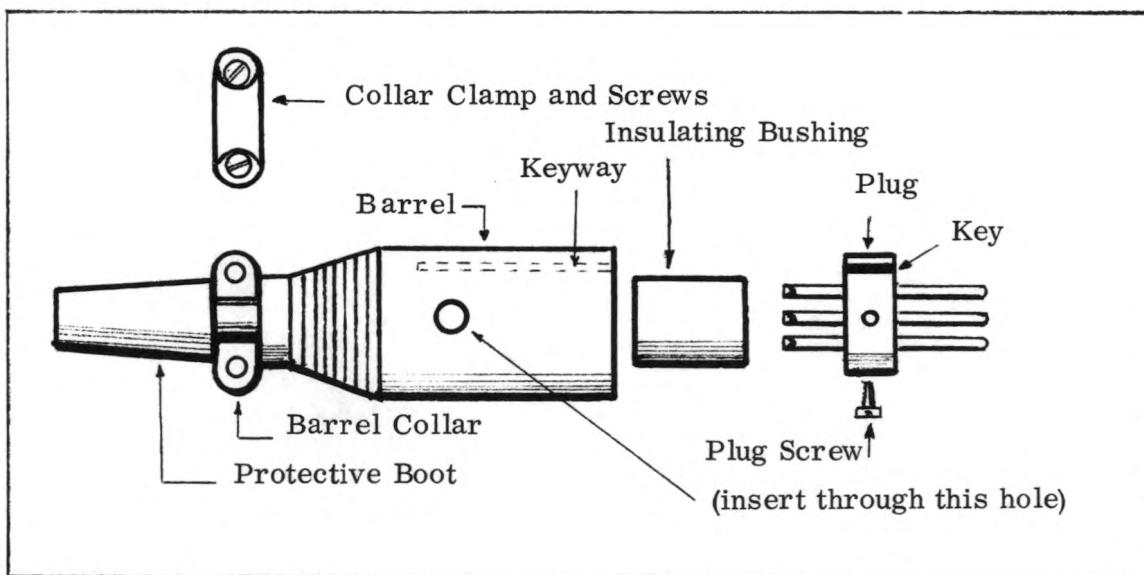

Fig.14 INSTALLATION OF CANNON PLUG
- 4.3 For connection of the audio source to the AUDIO IN "Cannon" jack on the modulator rear panel a separately procured "Cannon" plug is required. Installation of the this plug is as follows ( see Fig.14 ) :